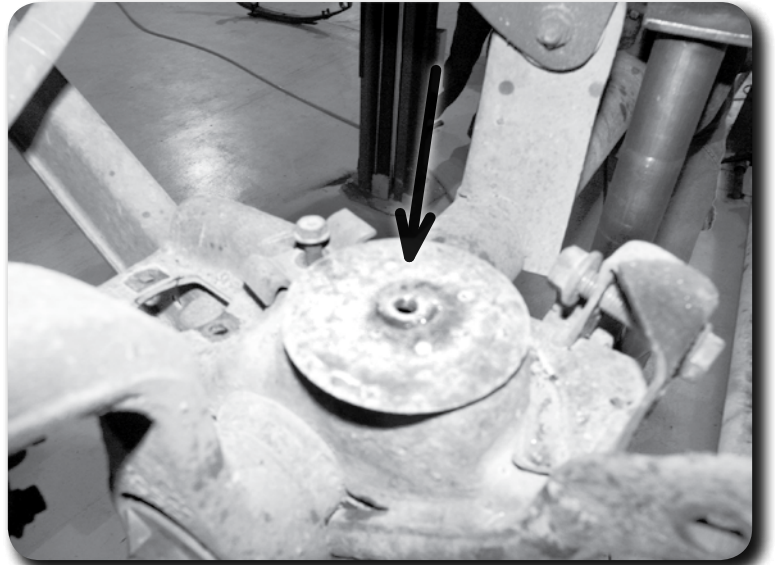

Figure 4
12. Locate and drill a 5/16" hole in the center of the front coil spring axle mount (Figure 4). Use the provided 3/8" x 1" self-tapping bolt to cut the threads in the hole for the bump stop extension. Remove the bolt and repeat on the other side.